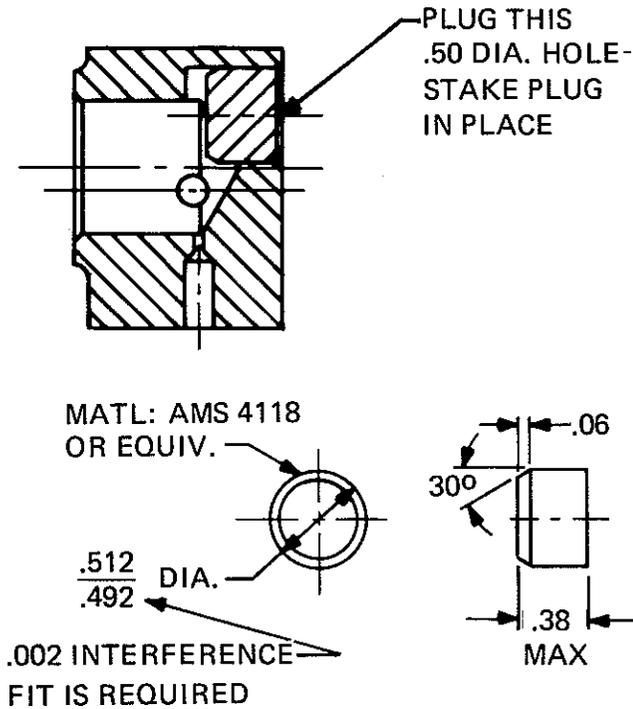

Figure 26. Plug Detail.
- Plug 0.500 inch dia. hole in back of adapter with 0.500 dia. x 0.375 inch long aluminum bar stock. Stake securely in place. (See Figure 26)